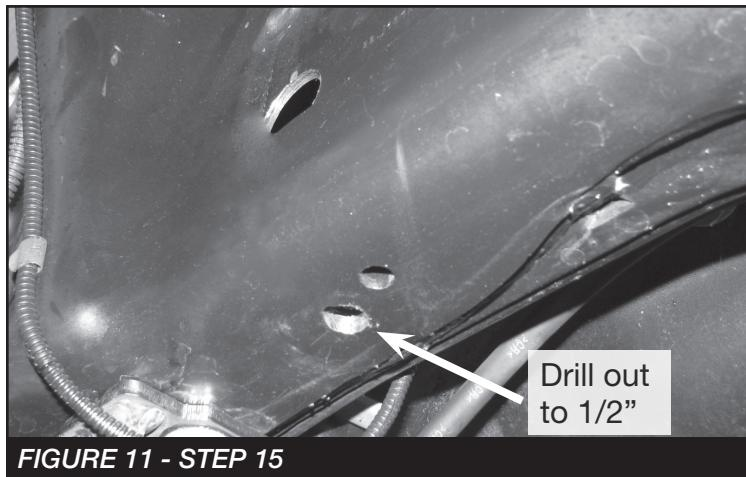

FIGURE 11 - STEP 15
15. Drill out the factory bump stop mount hole to 1/2". SEE FIGURE 11